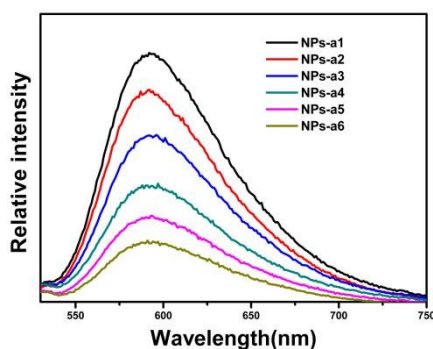

Figure S4. The emission spectra of as-prepared dye doped silica nanoparticles with different dye concentration and identical solvent ratio.
7. The emission spectra of as-prepared dye doped silica nanoparticles with different dye concentration and identical solvent ratio are shown in Figure S4.